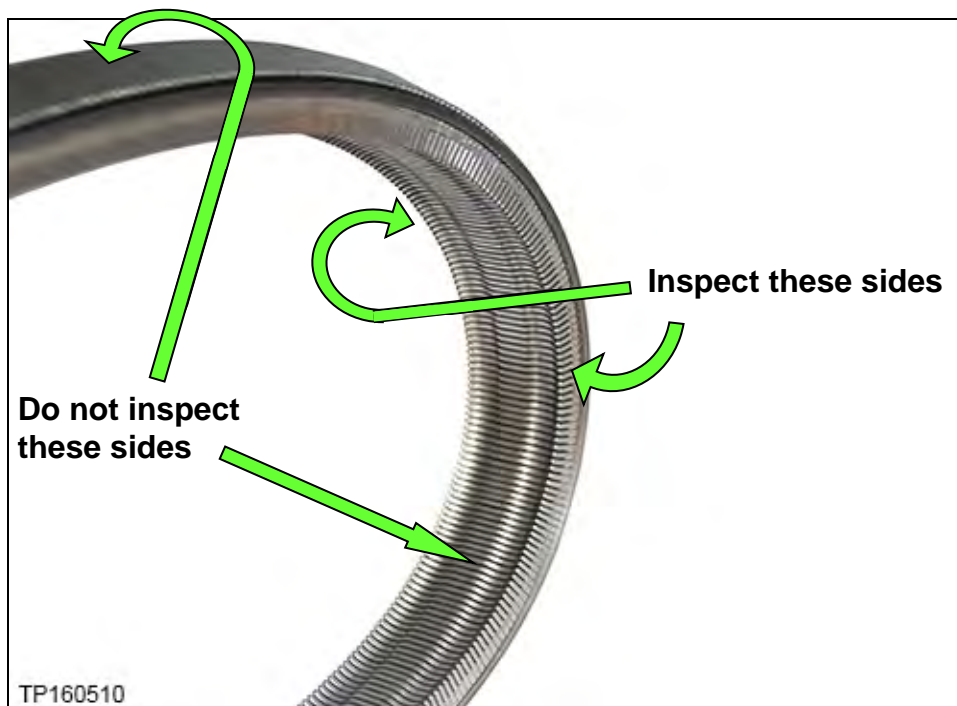

Figure 7A
6. Using borescope J-51951 with mirror attachment, inspect the entirety of the two sides of the belt that come in contact with the pulleys (see page 12, Figure 7A). Reference the pictures on pages 12 through 16 for comparison.